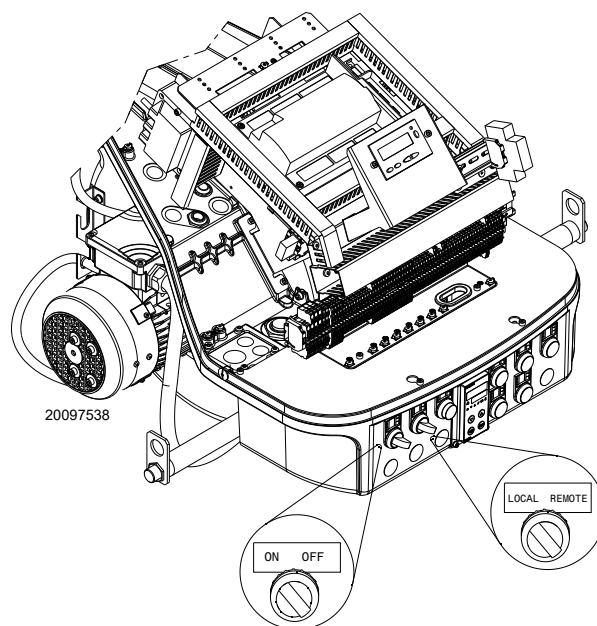

Fig. 34
Please refer to the specific manual for this operation. Turn the switch of Fig. 34 to position “ON” and turn the switch of Fig. 34 to position “LOCAL”.
Make sure that the lamps or testers connected to the solenoids, or indicator lights on the solenoids themselves, show that no voltage is present. If voltage is present, stop the burner **immediately** and check the electrical wiring. When the burner starts, check the direction of the motor rotation, as indicated in Fig. 34.
- place the switch of Fig. 34 in position “OFF” and wait for the control box to carry out the switch-off phase;